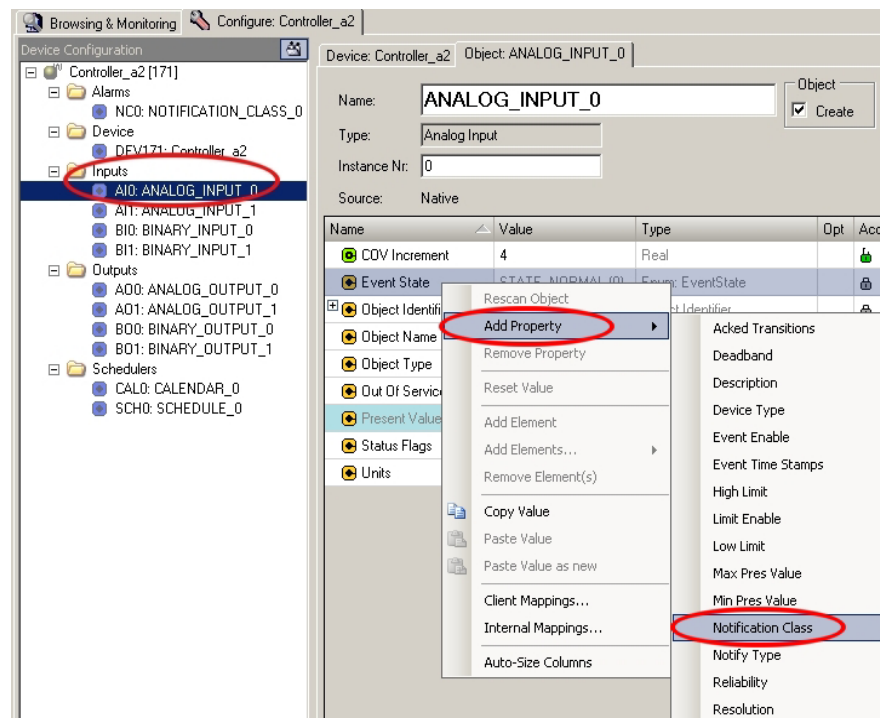

Fig. 4-18: Adding the property "Notification Class" to the Analog Input Object
23. Select **Add Property > Notification Class** in the context menu of an object property to add the property "Notification Class" to the object (see Fig. 4-18).